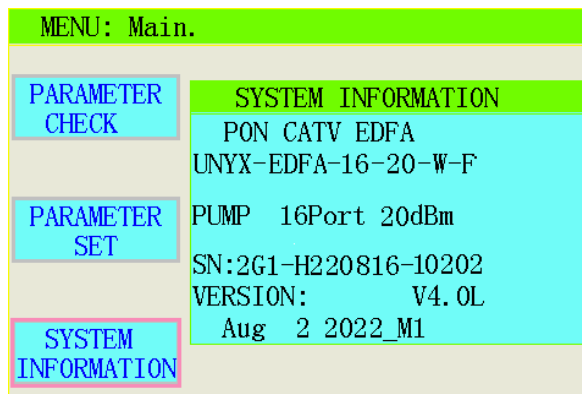
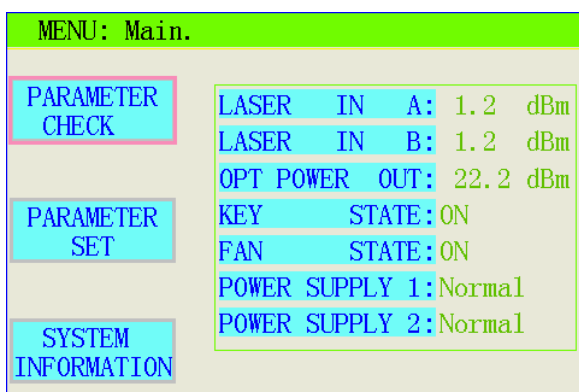
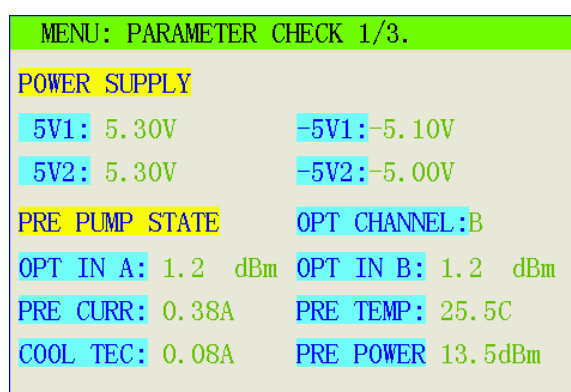
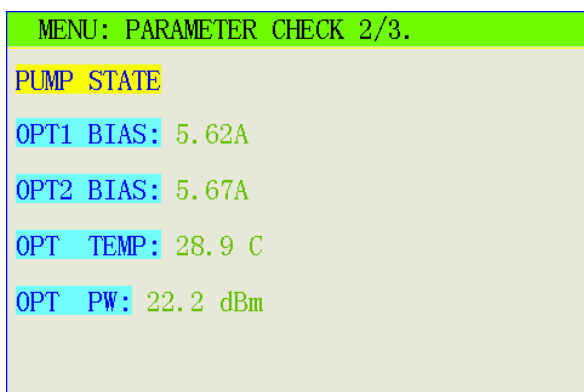

Figure 10
Figure 11
Figure 12
Figure 13
system information. The information is as follows ( Figure 10): Product name, product model specifications, laser 1(1-32 channels) nominal output power, product serial number, control software version number and software version compilation date.SAFE MODE Thole Value
4.2 Query function: Press the MENU key to enter the parameter query, LCD display the main menu query, see figure 11: optical input A/B power ,1-32 channel optical amplifier output power real-time power value, laser switch, fan, power module 1 and 2 working state; press the ENTER confirmation to enter the sub-menu query, see figure 12: press the UP key or DOWN to enter the power module parameter query: power module 1 and 2±5 real-time voltage value; Front pump parameter query: input optical A/B power, front pump laser operating current, temperature, refrigeration or heating and front pump output power real-time parameters; Figure 13: rear pump parameter query: rear pump laser 1 and 2 real-time values of the operating current, temperature and output optical power of the (dual-pump type); figure 10: case temperature, fan switching state and system working time and pump laser working time query.